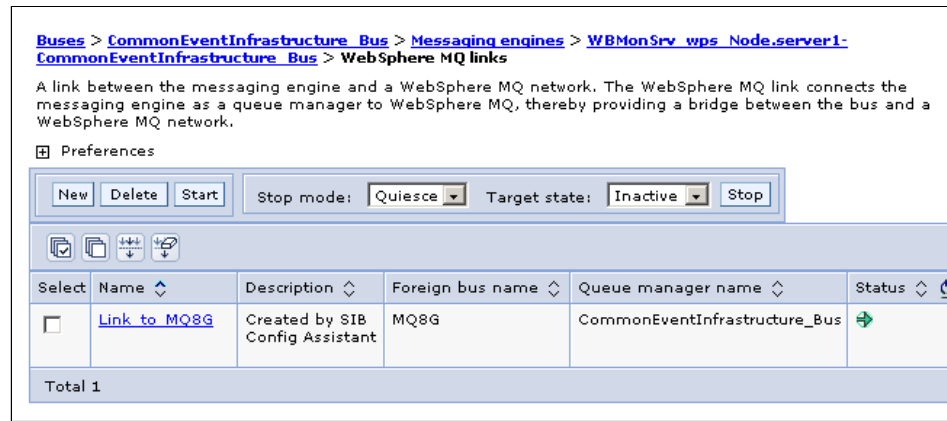

Figure 8-21 MQ Link
- Click the messaging engine. Click **Additional properties WebSphere MQ links**. One link should be defined, and there should be a green arrow in the status column, indicating that the link is active, as shown in Figure 8-21.